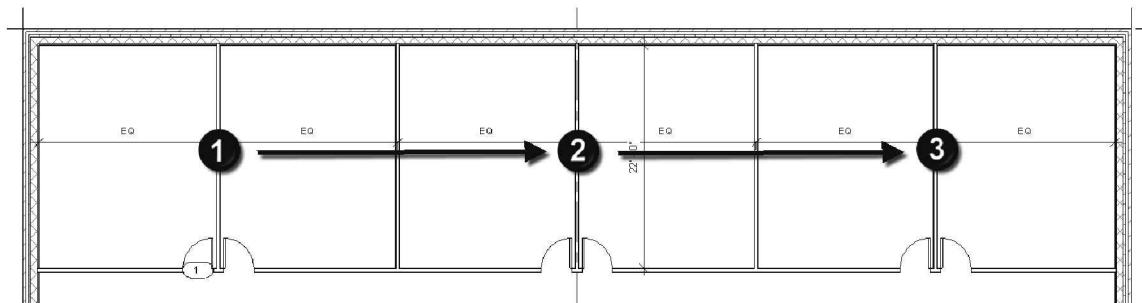

FIGURE 2-2.9 Numbers indicate pick-points listed in step #17
- b. *Second pick*: midpoint/centerline of wall shown in Figure 2-2.9;
- c. *Third pick*: midpoint/centerline of wall shown in Figure 2-2.9.